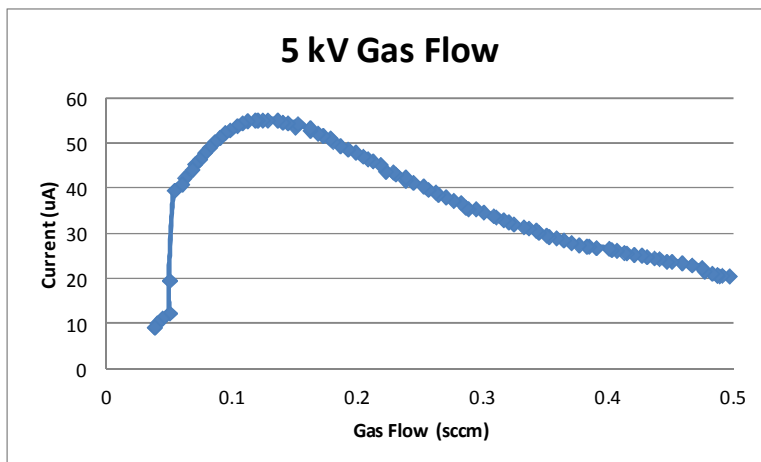

Figure 3-41 Operating characteristics of the PIG
Note that as guns warm up, the beam current can drift. The guns should be warmed up for 10-20 minutes before setting the gas flow manually. The optimum gas flow changes with accelerating voltage, and it is necessary to adjust the gas flow whenever the accelerating voltage is changed. The curve in Figure 3-41 shifts to the right and increases in height as a gun warms up. If the curve shifts so that the operating point is far to the left of the peak, then it can be in an unstable region of the curve or the current may drop to an unusable level.
7. **Adjust the right gun gas flow.** Find the gas flow correlating to the peak current. A typical curve relating gas flow to ion current is shown in Figure 3-41. The operating point indicated has been chosen because it gives the most focused beam and the highest milling rate.